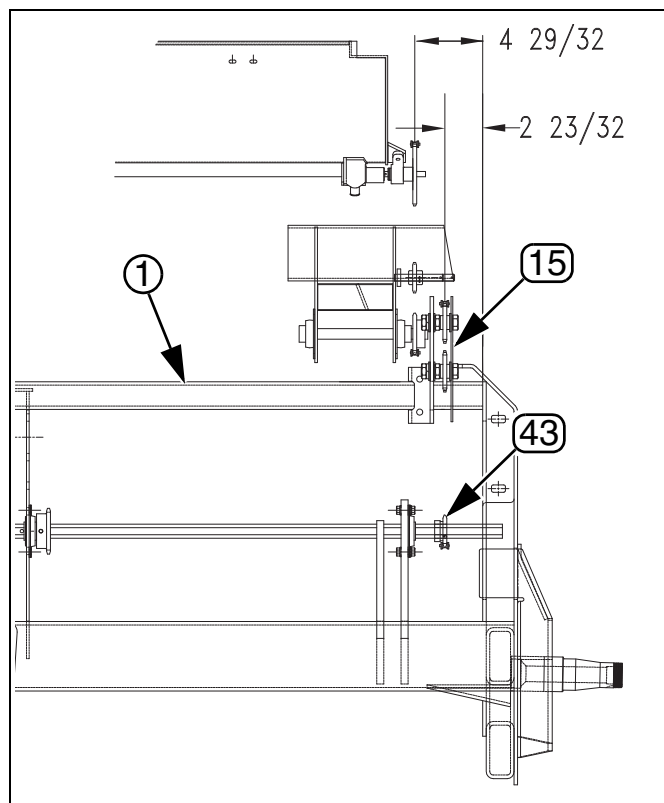
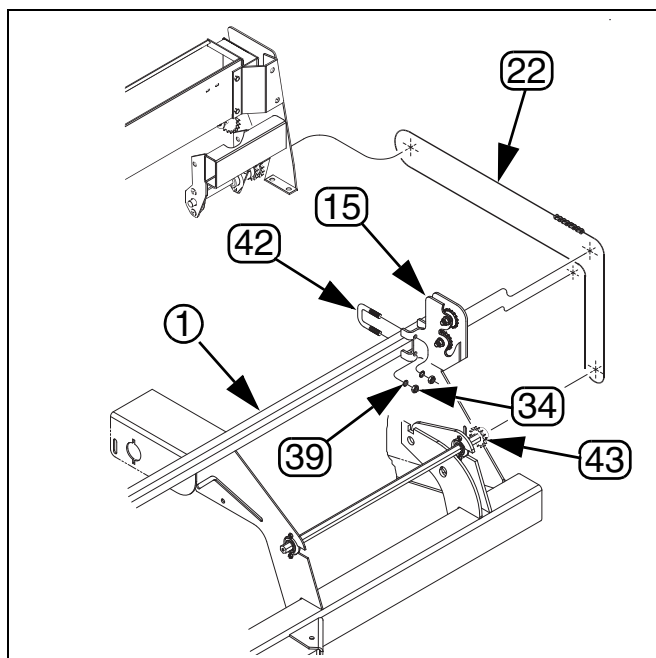
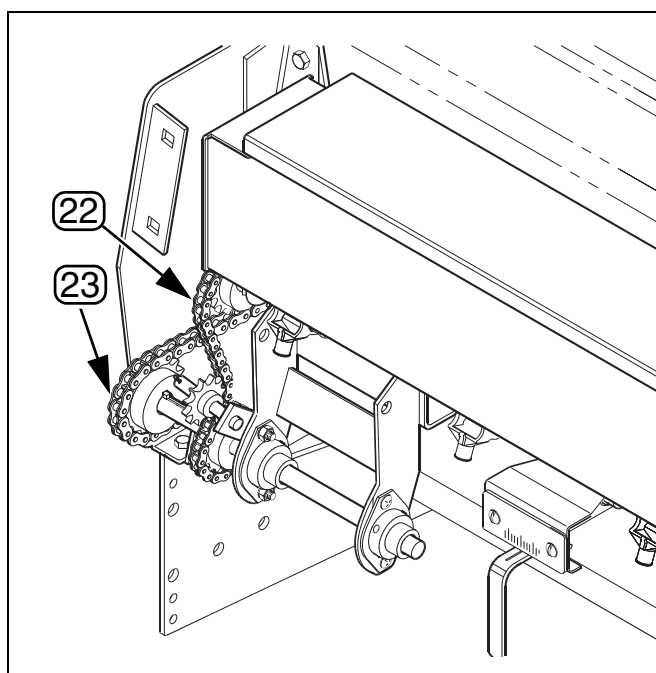

Figure 7
Figure 8
Figure 9
### Refer to Figure 7.
**Refer to Figure 7, Figure 8, and Figure 9.**
1. Mount the idler assembly (15) on drill frame (1) using 1/2-13x2x3 inch U-bolts (42) lock washers (39), and nuts (34). Position the idler assembly on drill frame at the dimensions shown in Figure 7.
2. Install and align the sprocket (43).
3. Route long chain (22) and the short (23) chain over sprockets as shown in Figure 8 and Figure 9.